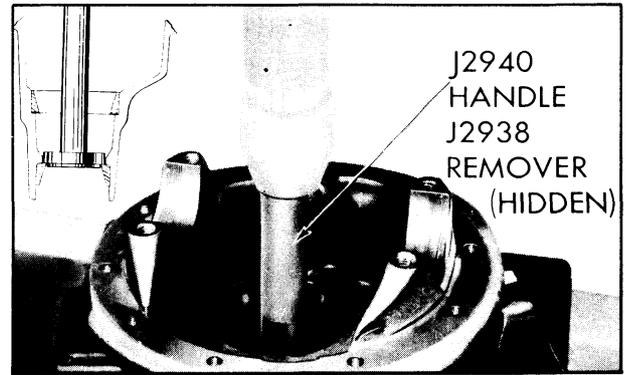

Fig. 6-19 Removing Front Bearing Outer Race
17. Press the front bearing outer race from carrier using Tool J-2938. (See Fig. 6-19)